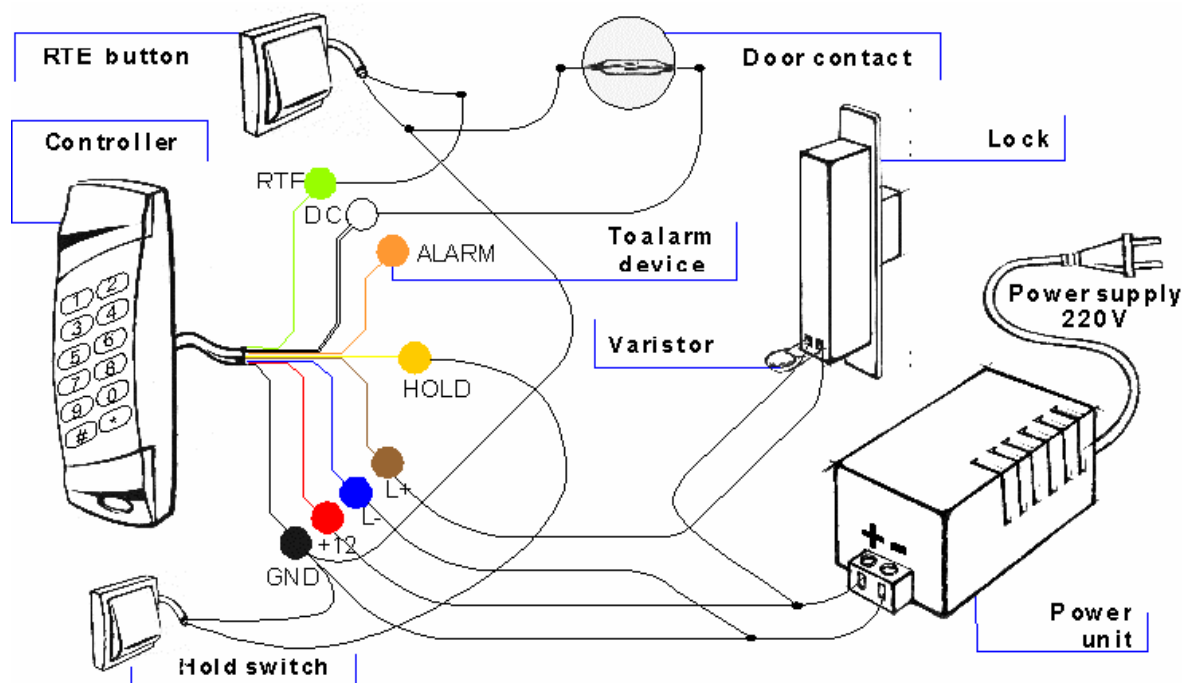
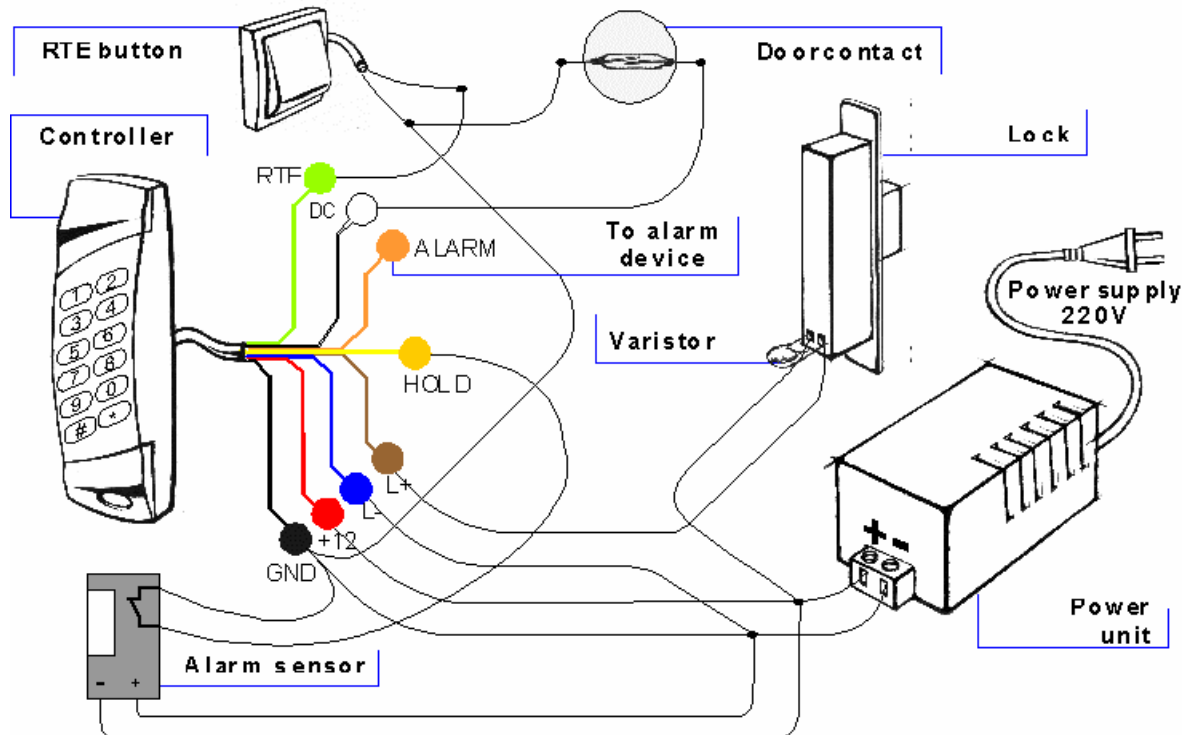

Figure 2. Connection of factory configured controller.
Figure 3. Alarm sensor Connection
Connection layout shall vary subject to controller configuration. Figure 2 provides for controller connection layout under factory configuration (refer to Section «Controller Factory Settings».) Application of factory configuration does not require for programming with the exception of entering of Engineer, Administrator and users codes.
- ❑ Voltage-opened electric lock or strike. To be connected in accordance with circuit diagram (Figure 2).
- ❑ Alarm Device. To be connected in accordance with circuit diagram (Figure 2).
Additional alarm sensor shall be connected in accordance with circuit diagram as per Figure 3. If necessary, the sensor and controller shall be powered from one power supply. If sensor is powered from an individual power supply, it is necessary to unite GND wires (common wires) of both power supplies. The rest elements of the system shall be connected in accordance with the above instructions (Figure 2).